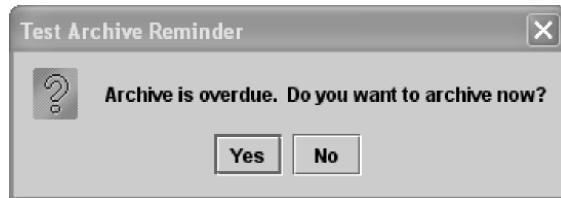
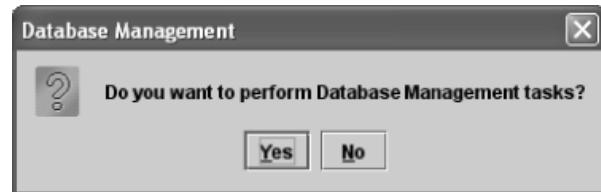
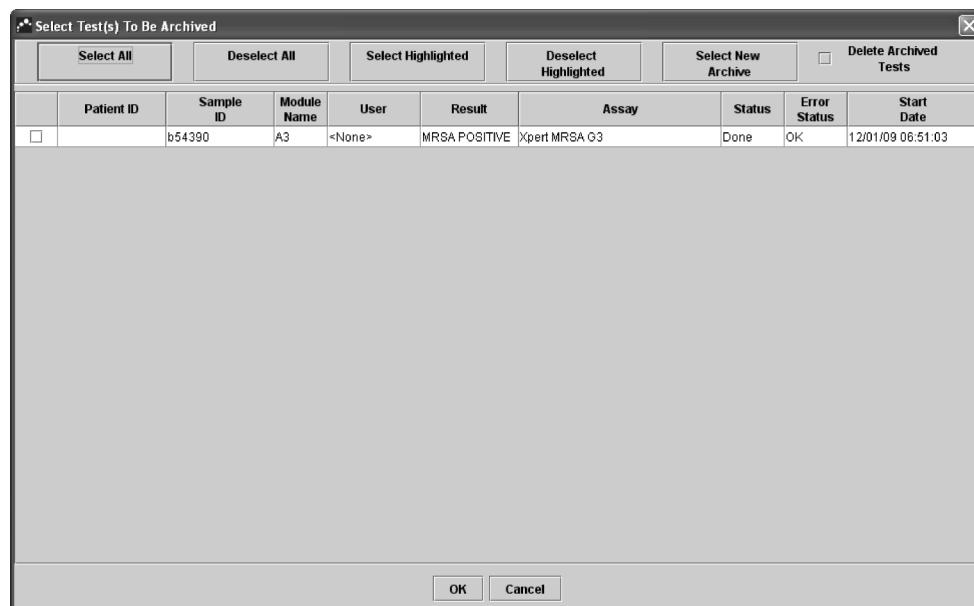

Figure 2-33. Test Archive Reminder dialog box
Figure 2-34. Database Management dialog box
Figure 2-35. Select Test(s) To Be Archived dialog box
If an archive is overdue, the Test Archive Reminder dialog box appears (Figure 2-33).
- a. Click **No** in the Test Archive Reminder dialog box (Figure 2-33). The Database Management dialog box (Figure 2-34) appears on top of the GeneXpert Dx System window.
- b. Click **No** in the Database Management dialog box (Figure 2-34). GeneXpert Dx System software closes.
- a. Click **Yes** in the Test Archive Reminder dialog box (Figure 2-33). The Select Test(s) To Be Archive dialog box appears (Figure 2-35).
When you are finished with the archive, the Database Management dialog appears (Figure 2-34).